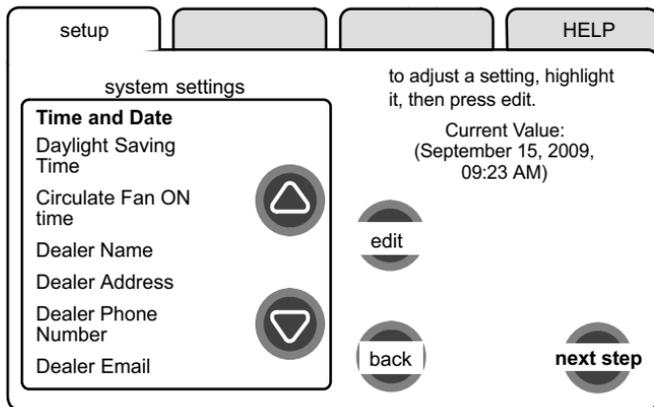
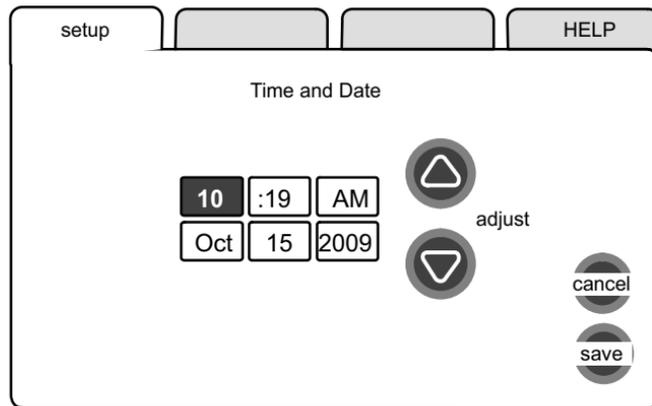

Figure 7. View/edit time and date
Figure 8. Set current time and date
Use the arrows to select **Time and Date**; press **edit** (see figure 7). Press **next** to proceed to the “Set current time and date” screen (figure 8).
- Press one of the time and date boxes - the text will change to white type in a dark box (for example, press the “10” box in figure 8).